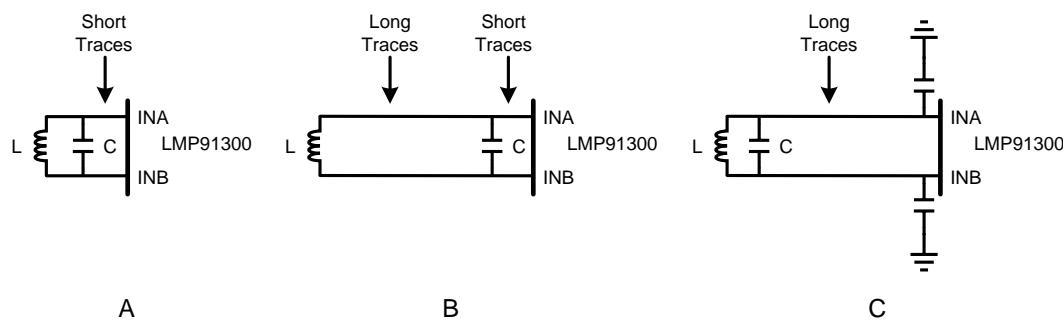

Figure 24. LC Tank Traces
There should be a ground trace between the INA and INB terminals of the LMP91300 to decrease the coupling of the signal on the INA and INB terminals to the other terminals of the LMP91300. The trace between the LC tank and the INA and INB terminals should be as short as possible as shown in part A of Figure 24. Longer traces between the LC tank and the INA and INB terminals can cause ringing at the INA and INB terminals which can produce very noisy proximity readings. If longer traces need to be used split the LC tank so that the capacitor is close to the LMP91300 as shown in part B of Figure 24. If both the L and C have to be located a longer distance away from the LMP91300 small capacitors (15 to 22pF) can be connected between INA and ground and INB and ground as shown in part C of Figure 24.
- There should be a ground trace between the INA and INB terminals and the rest of the terminals of the LMP91300 to decrease the coupling of the signal on the INA and INB terminals to the other terminals of the LMP91300. The trace between the LC tank and the INA and INB terminals should be as short as possible as shown in part A of Figure 24. Longer traces between the LC tank and the INA and INB terminals can cause ringing at the INA and INB terminals which can produce very noisy proximity readings. If longer traces need to be used split the LC tank so that the capacitor is close to the LMP91300 as shown in part B of Figure 24. If both the L and C have to be located a longer distance away from the LMP91300 small capacitors (15 to 22pF) can be connected between INA and ground and INB and ground as shown in part C of Figure 24.